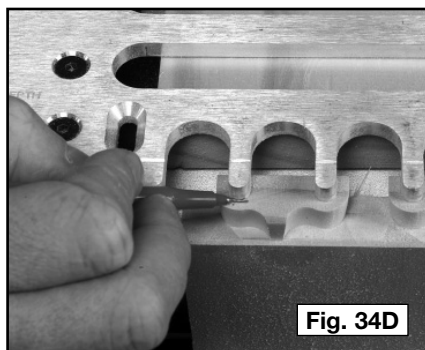

Fig. 34D
- Step 5** - Use a pencil to mark the location of the ends of the template fingers on the wood (Fig. 34D).